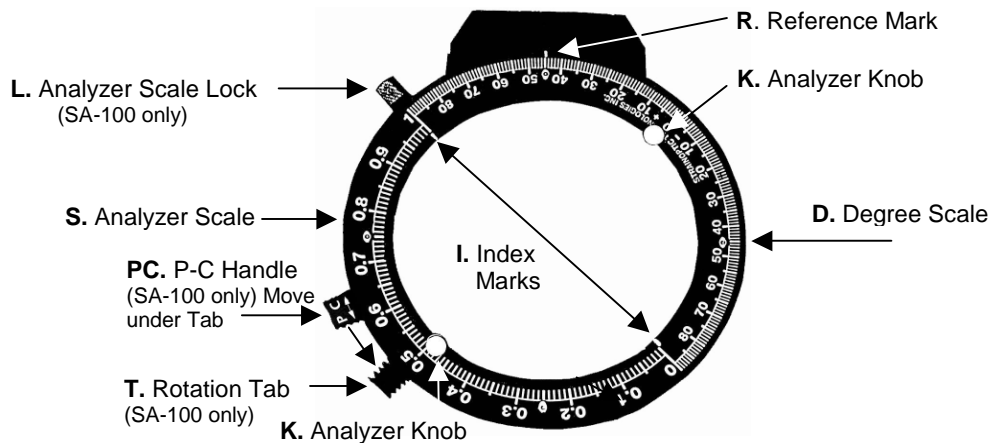

Figure 1. Analyzer Setup for Retardation Measurement Using Senarmont Analyzer Rotation Method
1. Make sure that the instrument is configured for PLANE polarization and set up properly for measurement using the Senarmont Analyzer Rotation Method as follows (Figure 1):